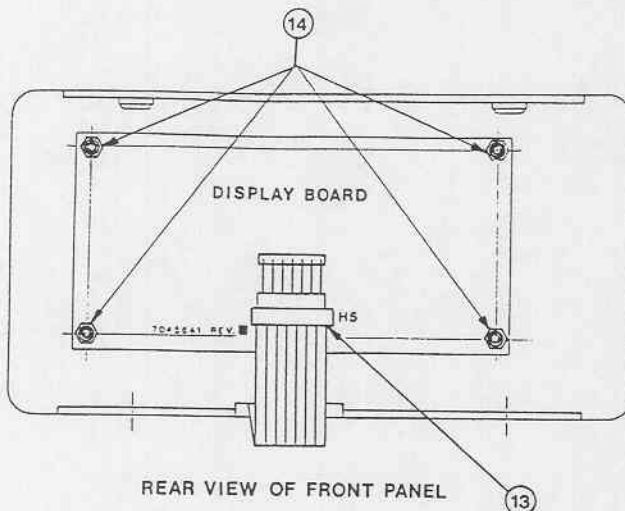

Figure 14. Remove the Display board.
13. Refer to Figure 14. Remove the cable connected to H5 of the Display board.
14. Refer to Figure 14. Remove the four (3/16") nuts and washers that secure the Display board to the front panel. Lift the Display board from the front panel. Remove the four spacers on the front panel mounting studs.